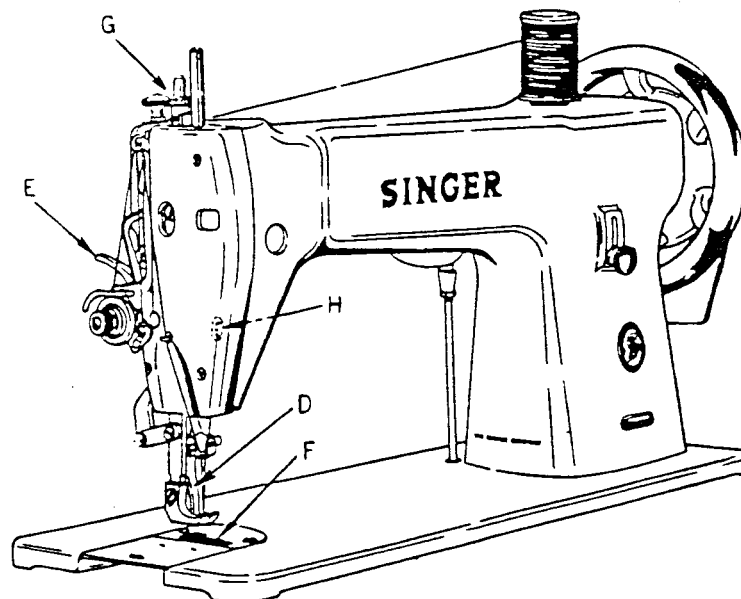

Fig. 5 Front View of the Machine
Raise the presser foot (D, Fig. 5) by means of the presser bar lifter (E, Fig. 5) to prevent injury to the foot (D) and feed (F, Fig. 5).
The pressure on the material is regulated by the thumb screw (G, Fig. 5, page 3) on the top of the machine. To increase the pressure, turn this thumb screw over to the right. To decrease the pressure, turn this thumb screw over to the left. The pressure should only be heavy enough to enable the feed to move the work along evenly.
(This screw can be reached through the hole (H, Fig. 5, page 3) provided for the purpose in the arm). After loosening the screw, move the needle bar up or down in the needle bar connecting stud until it is at the required height, then securely tighten the screw.